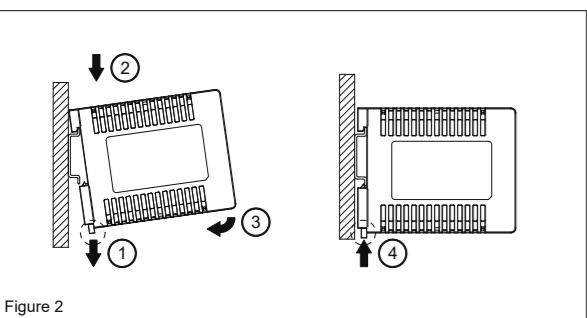
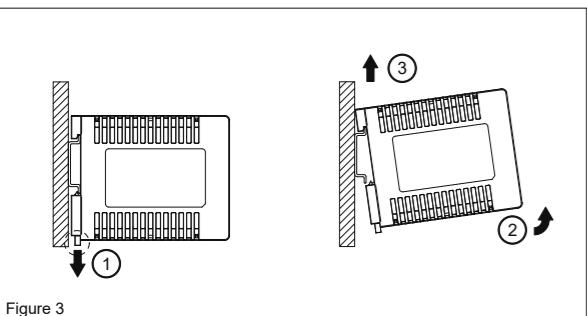

Figure 2
Figure 3
### 4. Mounting and dismounting (Fig. 2, Fig. 3)
Each device is delivered ready to install. Snap on the DIN rail as shown in Fig. 2:
5. To uninstall, pull the unit's DIN rail latch OUT as shown in Fig. 3. Tilt the bottom part of the unit out. Push the unit up and pull out from the DIN rail.